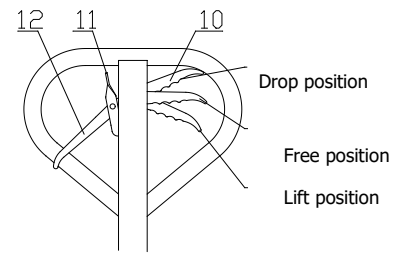

Fig. 5
- 4.1 After the truck is assembled, try to rock the hand grip and operate different positions of control handle knob 10 to examine the lifting, free position and dropping and check that whether the different positions are normal or not. See fig 5.
5.3 See fig 5, when hand knob 10 is placed on the lift position, the truck will be in a state of lift. At this time, if you rock the hand grip, the truck will be lifted.
5.4 See fig 5, when hand knob 10 is placed on the free position, the truck will travel. At this time, if you rock the hand grip, the truck will neither lift nor drop. Then, you can use the truck to move the cargo.
5.5 See fig 5, when the hand knob 10 is placed on the drop position, truck forks will drop. At this time, the truck forks will drop automatically.
5.6 See fig 5, when the hand knob 12 is placed below, the truck will be in a state of free walking.
5.7 See fig 5, when the hand knob 12 is placed above, the truck will be in a state of brake.
5.8 See fig 5, hand knob 11 is used for release brake.